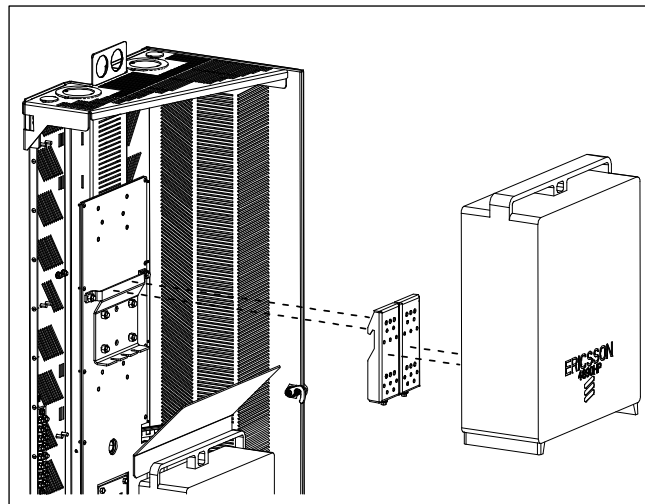

Figure 11 **Mount Radio**
4. Hang the radio/bracket assembly onto the upper hanging bracket base plate (Figure 11). Secure the hanging brackets using the 1/4-20 securing screws underneath.